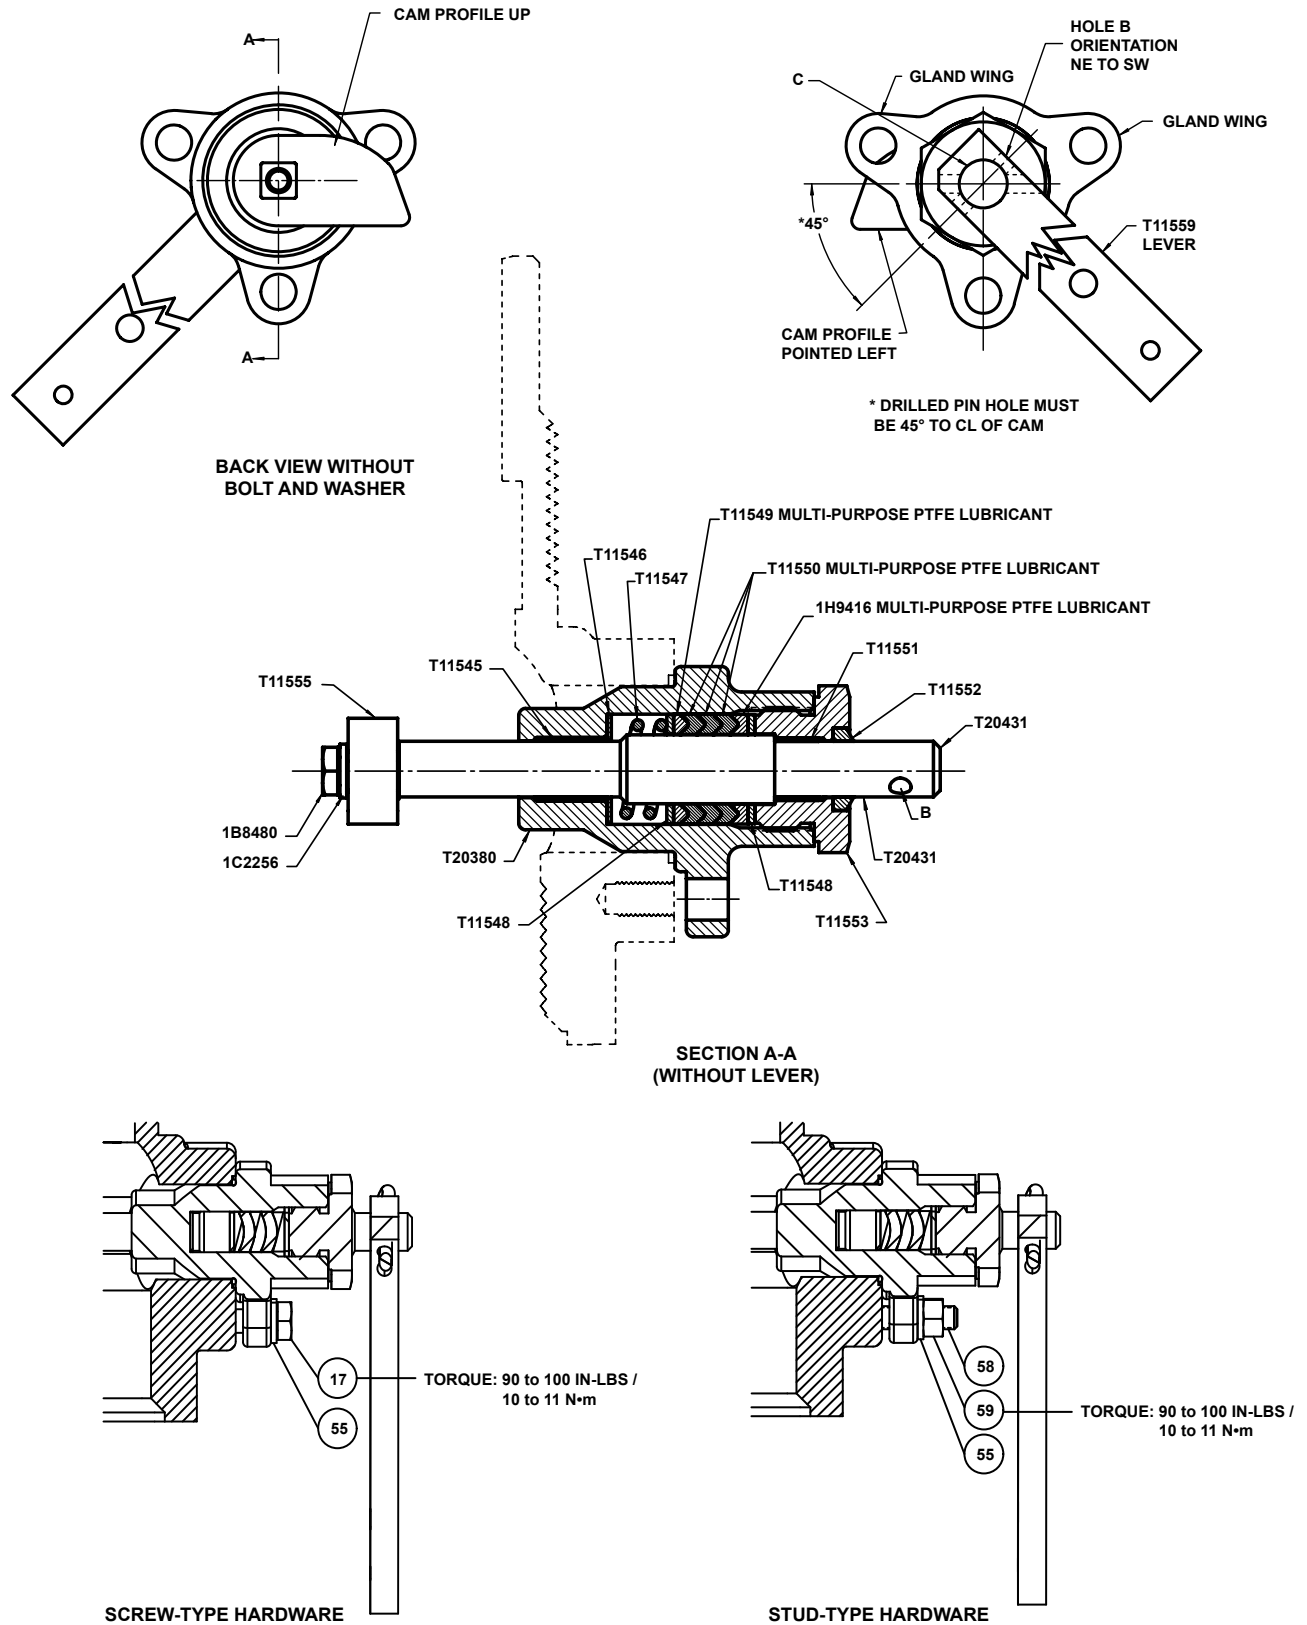

Figure 6. Stub Shaft Orientation
4. Unscrew the cap screw (key 15R) from the stub shaft (key 15J) and remove the operating lever by taking out the cotter pin (key 19).
5. Unscrew the retaining nut (key 15M) from the bonnet. Pushing on the stub shaft (key 15J) will expose the bonnet parts including the packing.
7. Reassemble in reverse order. Replace cap screw (key 15R) using 30 to 35 in-lbs / 3.4 to 4.0 N•m torque.
8. Before replacing the gland assembly, replace the O-ring (key 16) with the proper material matching the main seals. The standard Types C471 and C477 material is Nitrile (NBR).
9. Orient Cam and stub shaft (See Figure 6)
Refer to Figure 6. Looking at the end of the stub shaft (C) that the lever or actuator attaches to:
2. The hole (B) through the stub shaft that the lever/ actuator attaches to should be oriented in a NE to SW position with N being at the top.
3. The 2 gland wings should be at the top as shown in Figure 6.
4. The lever should be oriented as shown and the cotter pin run through hole (B).
- a. Reinstall the washers (key 55) and nuts (key 59) and torque to 90 to 100 in-lbs / 10 to 11 N•m. Reinstall actuator or latch if applicable.
- c. If installing new studs, install the long studs (key 57) in the top-most hole locations and the short stud (key 58) in the bottom-most location. Secure the gland to the body with the first set of washers (key 12) and nuts. Reinstall actuator or latch if applicable or cover two long studs with protective cap (key 60) if available.